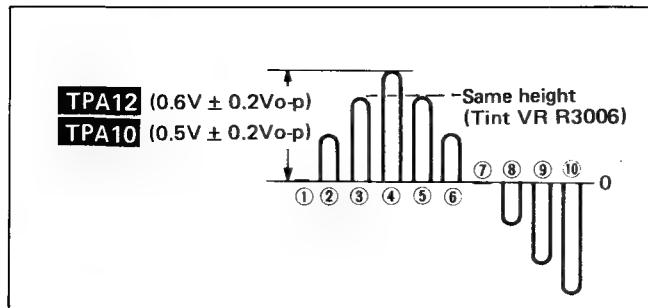

Fig. 32
- 3) Connect an oscilloscope between TPA12 (B-Output) and chassis GND. When confirm that the waveform level is $0.6V \pm 0.2V_{o-p}$ on the oscilloscope as shown in Fig. 32.
When confirm that the waveform level is $0.5V \pm 0.2V_{o-p}$ on the oscilloscope as shown in Fig. 32.
- 6) Turn Tint control (R3006) and confirm that the variable range is more than 60° as shown in Fig. 32.